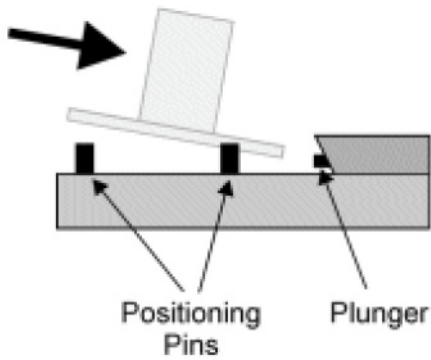

Figure 6-6: Tilting the cartridge for installation.
12. Tilt the cartridge at a 30-degree angle so it can be pushed towards the plunger at the back of the holder and still clear the front pins (Figure 6-6).